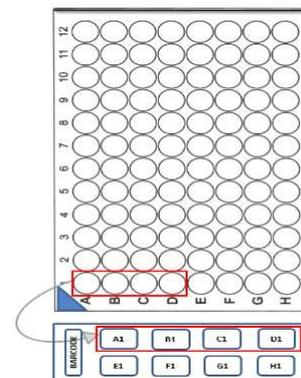

Figure 1
- From the Hyb plate, load **40 µL (CRITICAL VOLUME)** of each sample onto a gasket slide in the order shown in **Figure 1**